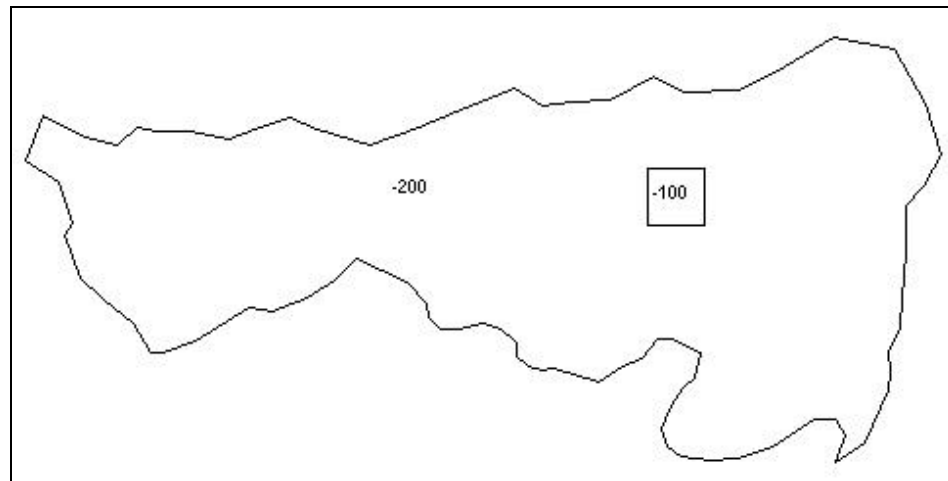

Figure 3 Recharge zones representing aquifer recharge (-200) and landfill leakage (-100)
First to set up the recharge zones. The recharge polygons are shown in Figure 3. These polygons define a parameter for both the small polygon defining the landfill and the larger polygon encompassing the rest of the site. The key values associated with the two zones are shown on the polygons in Figure 3. The “-200” zone represents recharge to the aquifer from rainfall. The “-100” zone represents leakage from the landfill to the aquifer.
2. Using the **Select Polygon**  tool, double-click on the landfill polygon (see Figure 3) to bring up the *Attribute Table* dialog.